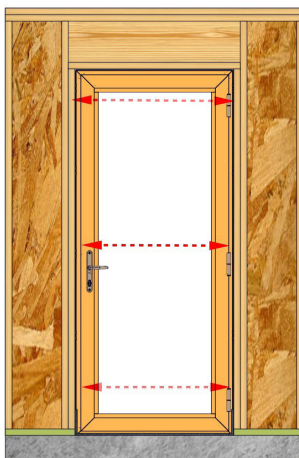

Fig. 12
1. Verify the door is square, level, and plumb. Check the spacing around the door at the top, middle, and bottom to make sure the door is not over shimmed. (Fig. 12)